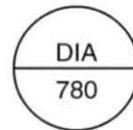

Figure 57. Instrument Tag
14. Determine the measured variable indicated in the instrument tag in figure 57.